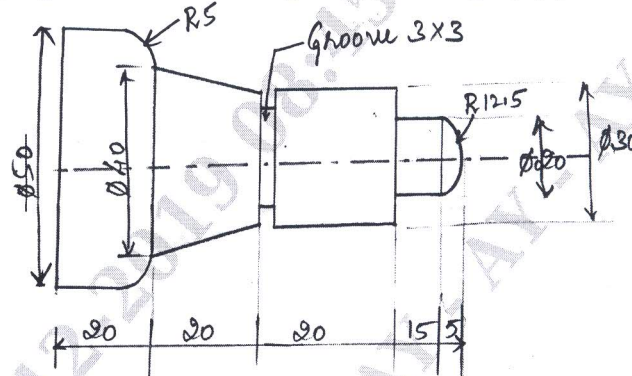

Fig.Q7(b)
- b. Write the CNC part program for the sketch given below Fig.Q7(b).